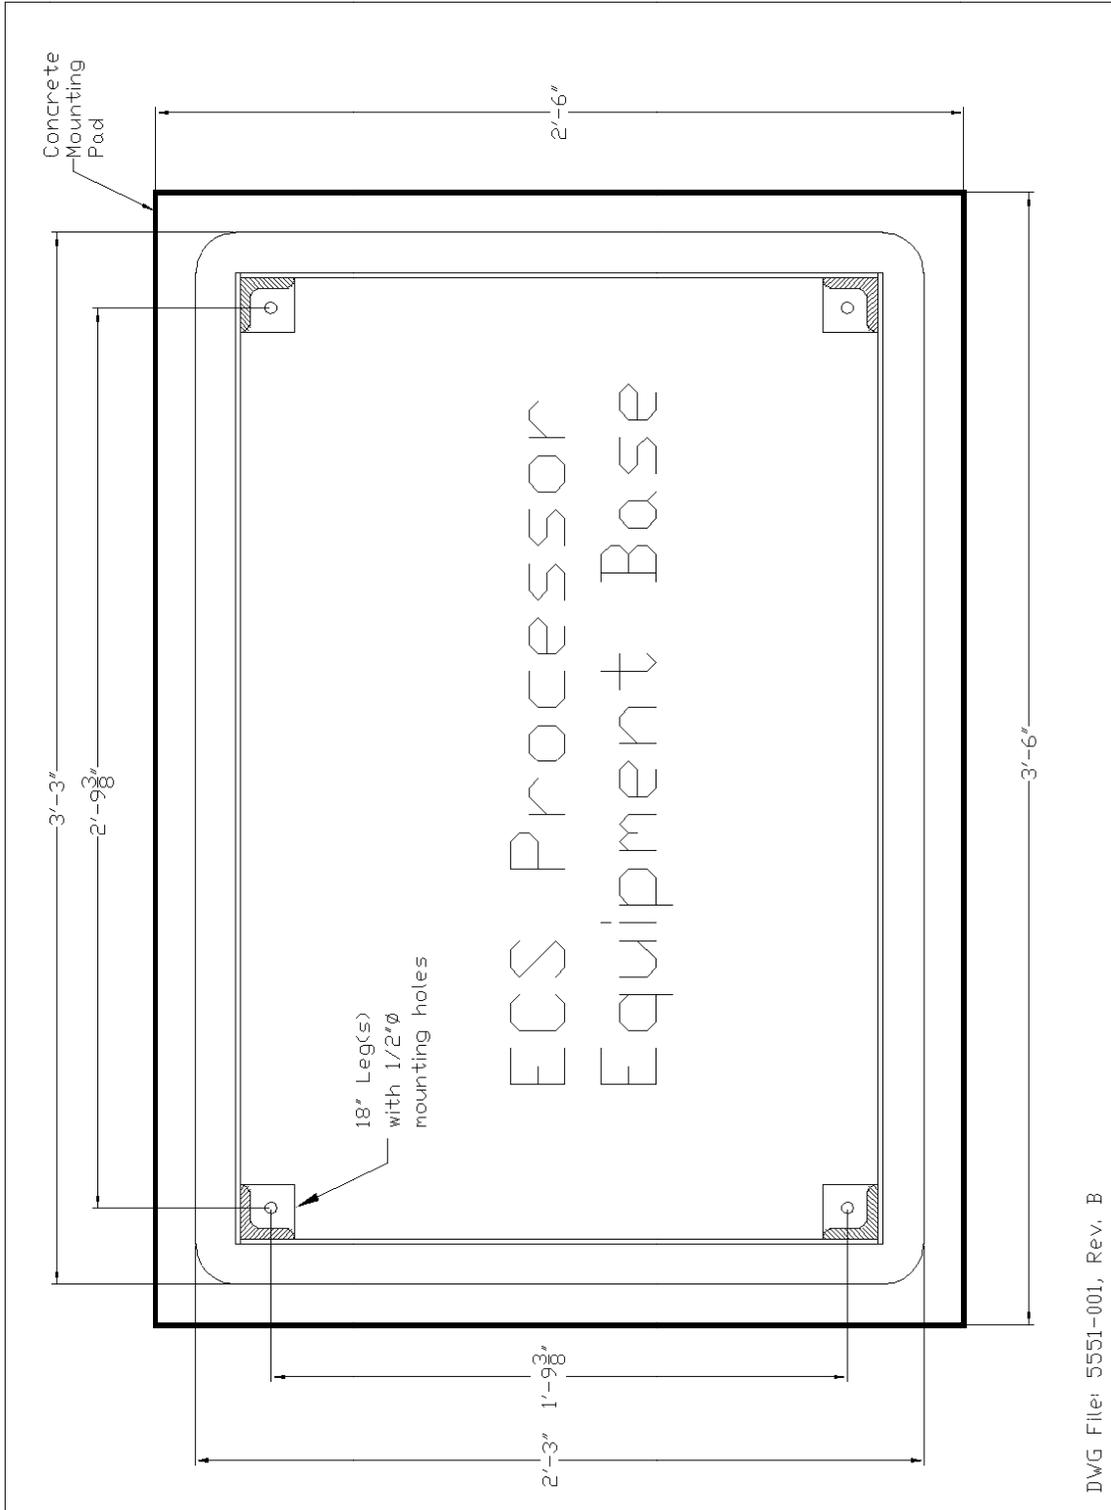

Figure 9: Concrete Mounting Pad Dimensions
- ▶ **See figure 9: Section 14 / Page 31**